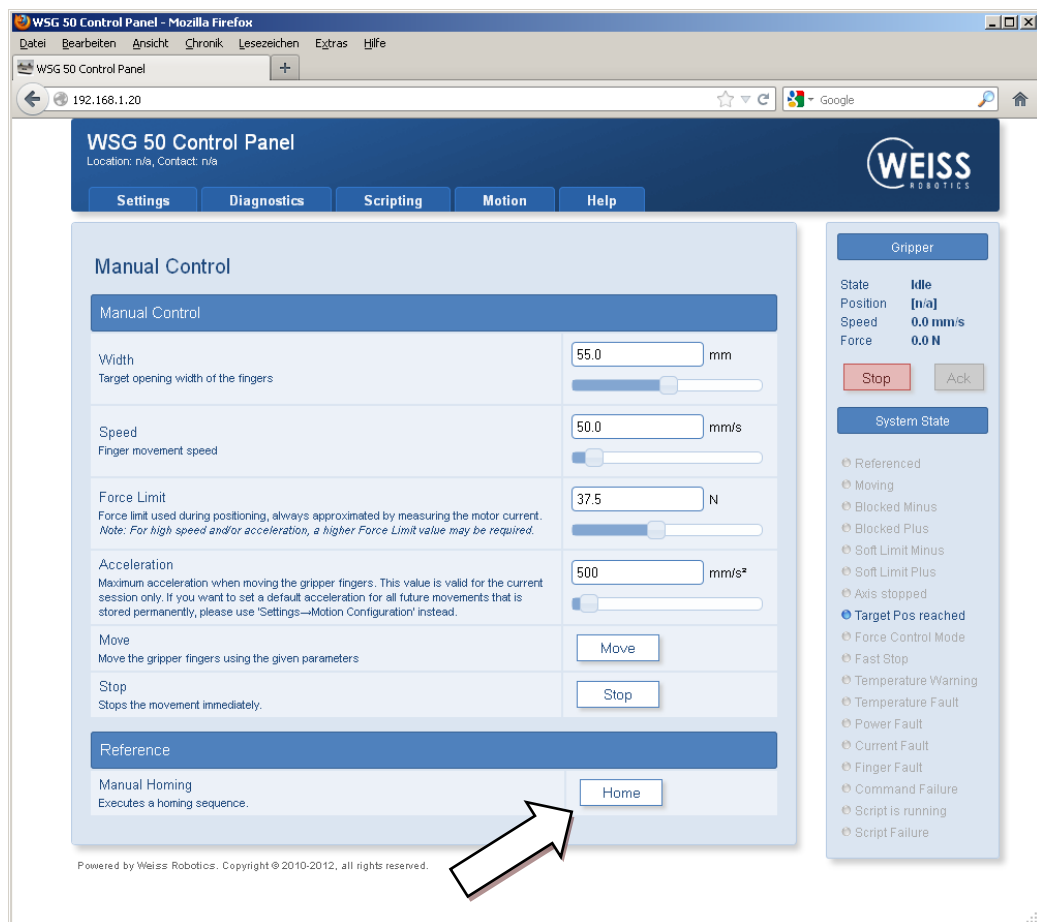

Figure 22: „Manual Control“ configuration page
6. From the menu, select the „Motion → Manual Control“ option and click on the „Home“ button (Figure 22). The module will now zero itself.